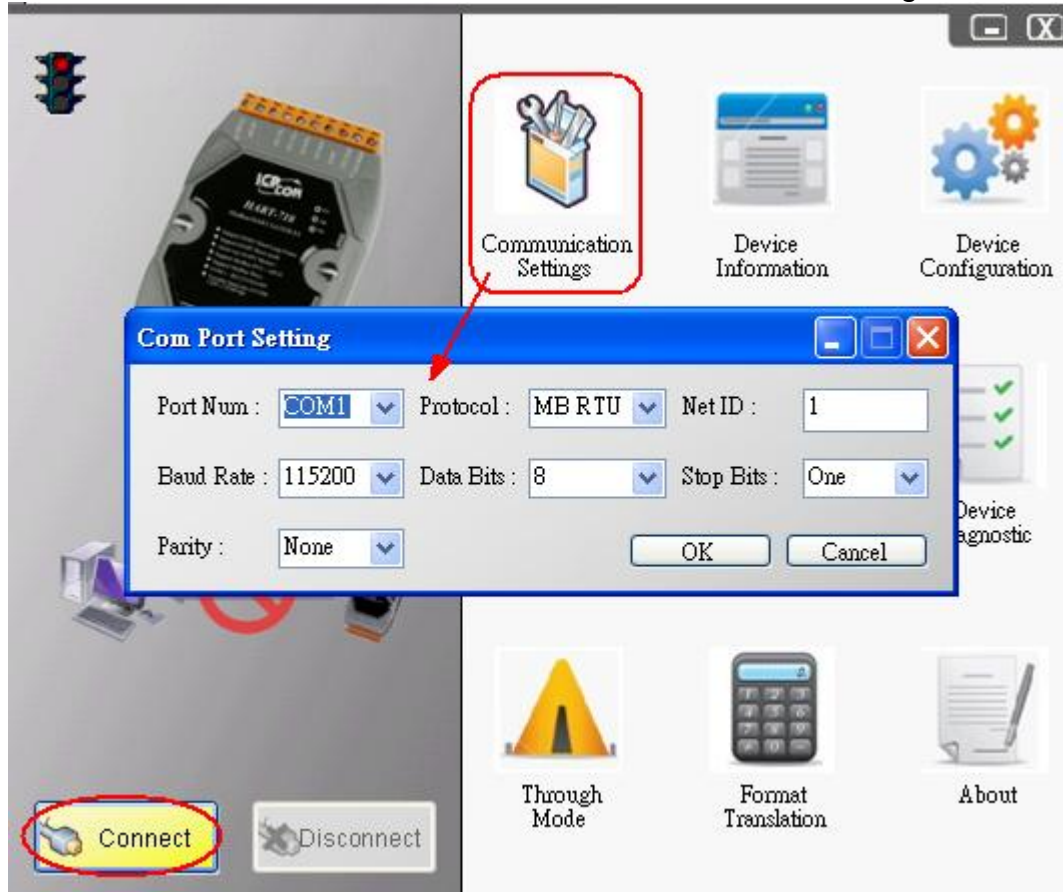

Figure 1-1 Connect to HRT-710
- (1) Set the com port parameters.
- (2) Click the **“Connect”** button to connect to HRT-710 module like Figure 1-1.